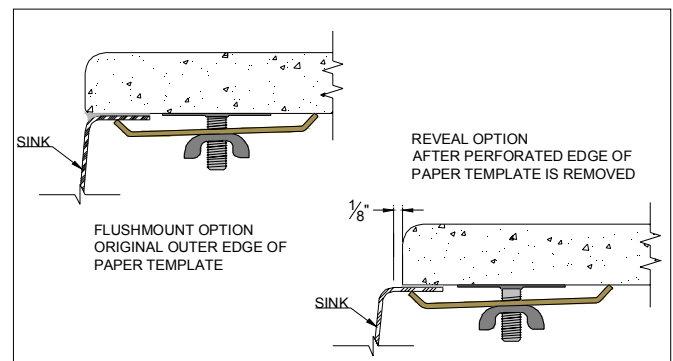

Figure 4B
- Using the paper template provided in the sink box, select type cutout desired. (FIG. 4B)